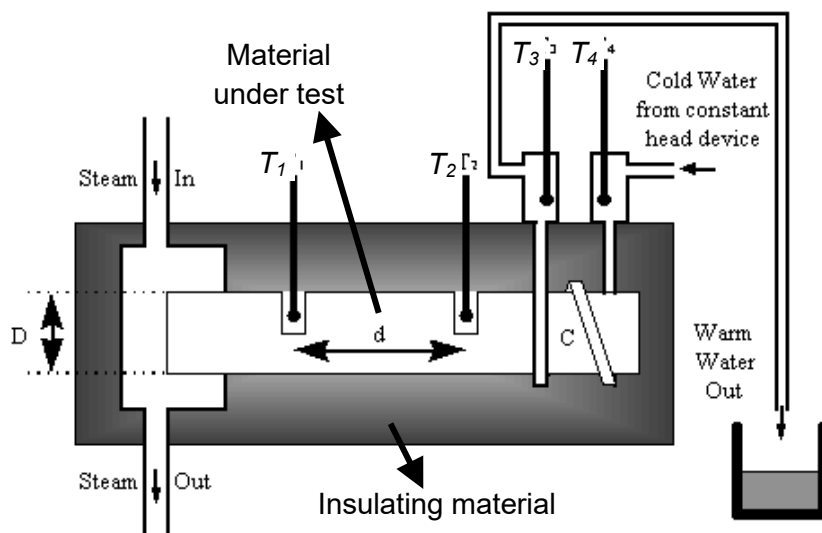

Fig. 8.1
where k is a constant called the thermal conductivity of the material, and A is the cross-sectional area of the material. A simple experimental setup shown in Fig. 8.1 can be used to verify the model, using a cylindrical metal bar as the material under test.
- (ii) The insulating material is now removed from the uniform metal bar in Fig. 8.1.